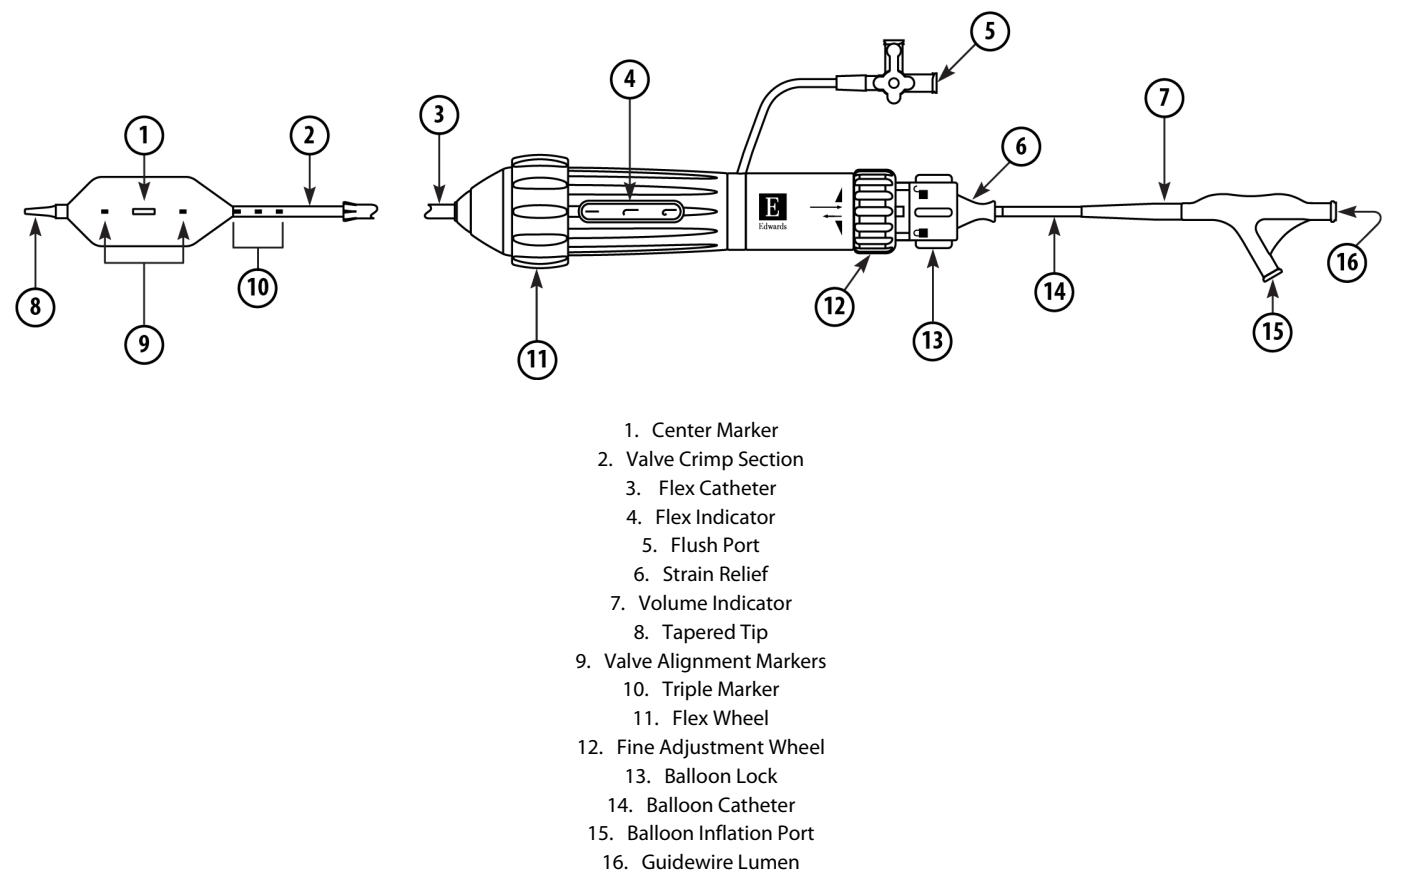

Figure 2: Edwards Commander Delivery System
• Edwards Commander Delivery System (Figures 2, 3, 4)